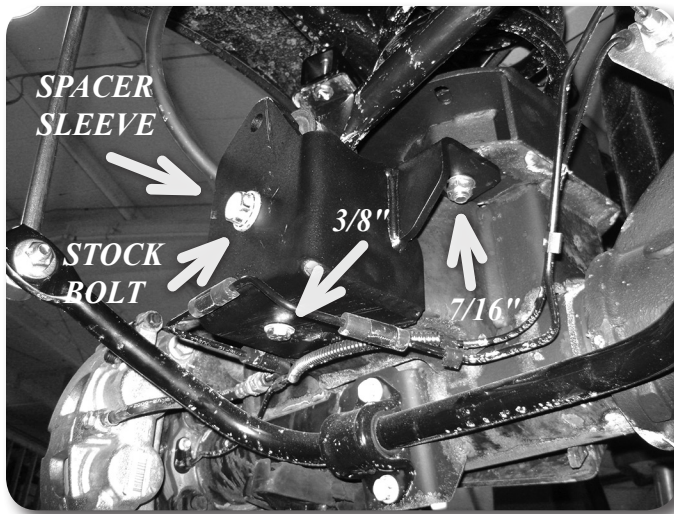

Figure 5
11. Install the trackbar bracket to the axle. Hardware is located in bolt pack 674.. First loosely attach the bracket using the 7/16" hardware through coil spacer and lower coil mount. Next, place the 2-1/8" long sleeve and place it inside the track bar bracket at the factory track bar bolt location using the factory track bar bolt and nut tab. Using the 3/8" x 1-1/2" bolt, washer, and flange nut attach the bracket through the bottom hole. Fig. 5